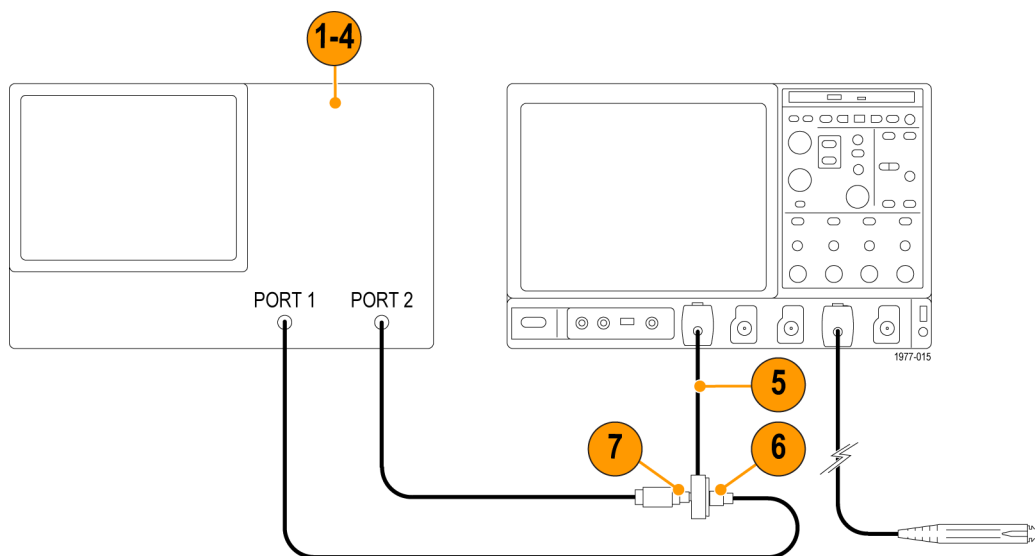

Figure 10: Normalize the signal path for the following tests
7. Attach the cable from port 2 of the network analyzer to the SMA connector on the TekVPI Calibration Fixture. Use a male BNC adapter if necessary. The setup should now appear as shown. (See Figure 10.)